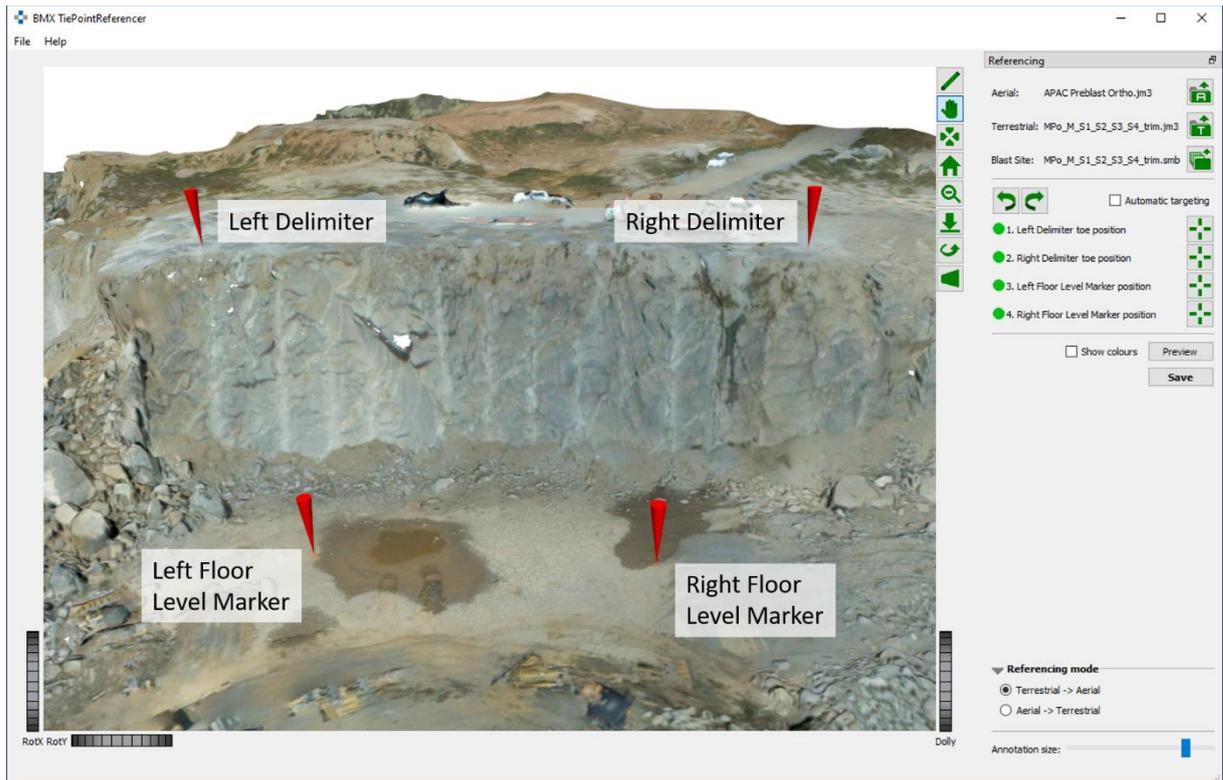

Figure 2: Positioning of Delimiters and Floor Level Markers
8. Repeat step 5 to step 7 to set the toe position of the *Right Delimiter*, the *Left Floor Level Marker* and the *Right Floor Level Marker* (e.g. see Figure 2) .